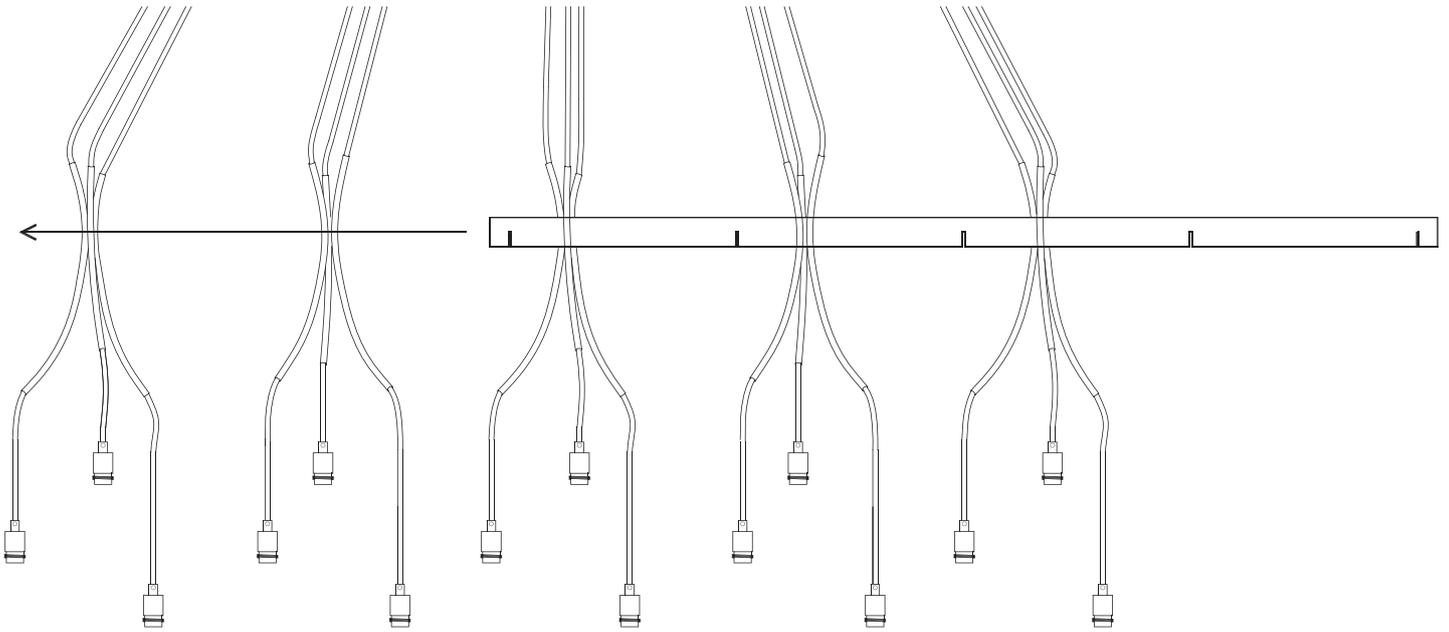

Figure 6. Attach brass bar to individual "skirt" elements
- 9 Carefully pass the brass bar through the cords and skirt elements from one side with the slots in the bar facing downward (*Figure 6*). Working one at a time, slot the bar into the upward facing slots in each skirt element. During this procedure, adjust both the length of the pendants by loosening and tightening the strain reliefs at the canopy to allow for more or less cord as needed, and also gently adjusting the skirts by sliding them slightly up or down the cords until they are in a position where the bar fits into each skirt and the bar is level. Once the fixture is composed, then tighten the strain reliefs at the canopy one last time - do not overtighten or damage the fabric-covering of the cords or damage the electrical cords themselves.